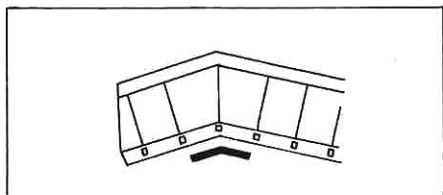

Fig. 1
- when the film end is bent as shown in Fig. 1.